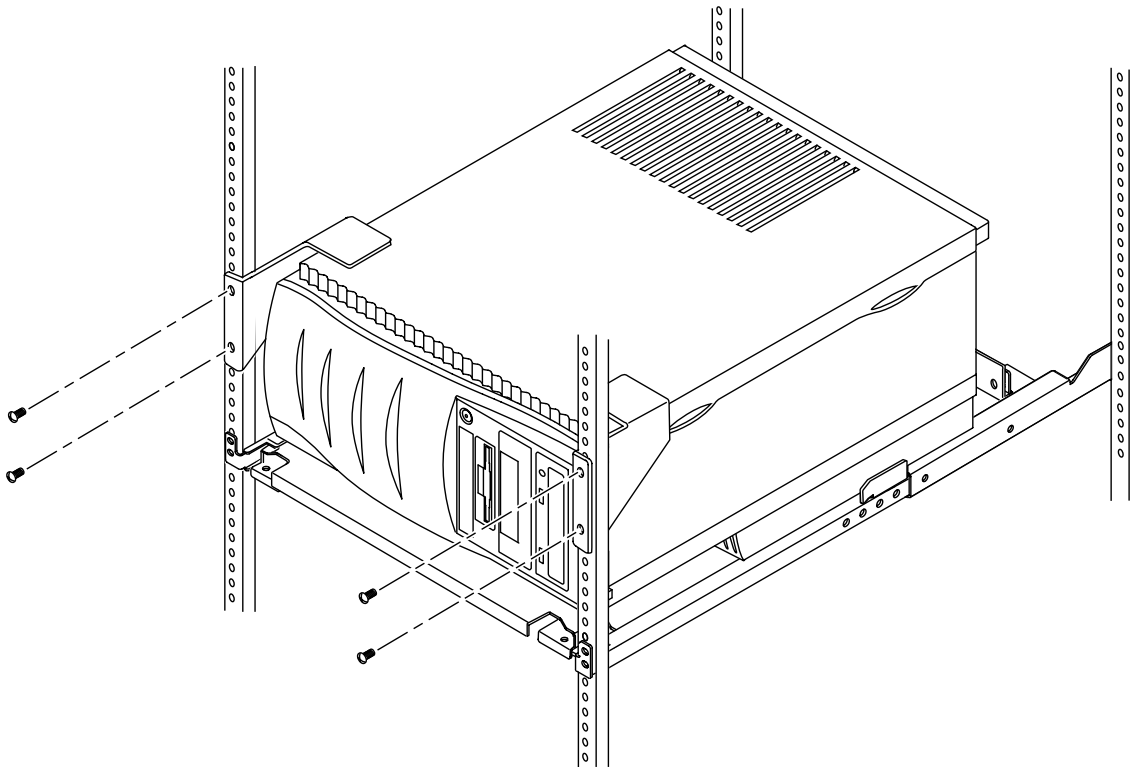

FIGURE 12 Fastening the Left and Right Front Brackets
6. **Using two of the provided screws, fasten the left front bracket to the rack** (FIGURE 12).
8. **Using two of the provided screws, fasten the right front bracket to the rack** (FIGURE 12).